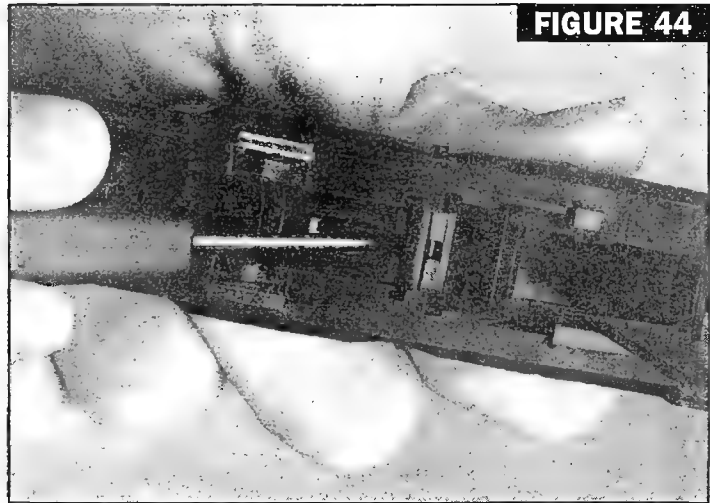
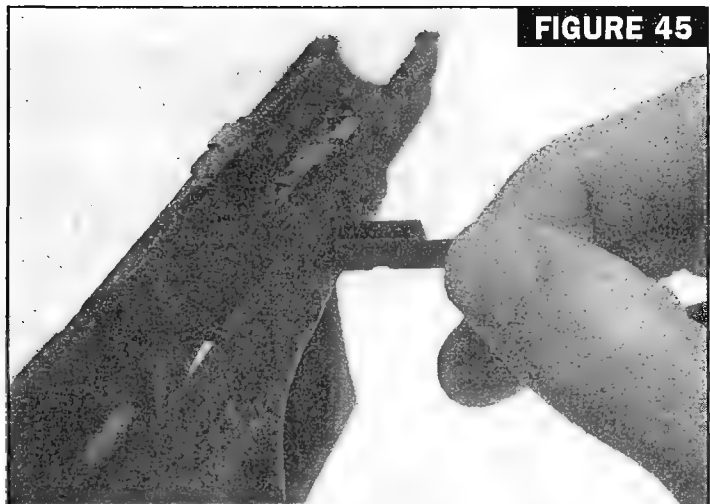

FIGURE 44
FIGURE 45
- While pressing the slide lock spring down as far as possible, as shown (Fig. 44), remove the slide lock (Fig. 45). To facilitate removal of the slide lock, hold the frame of the pistol on its side while depressing the slide lock spring.